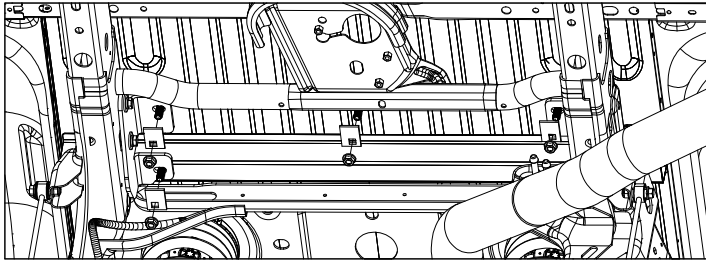
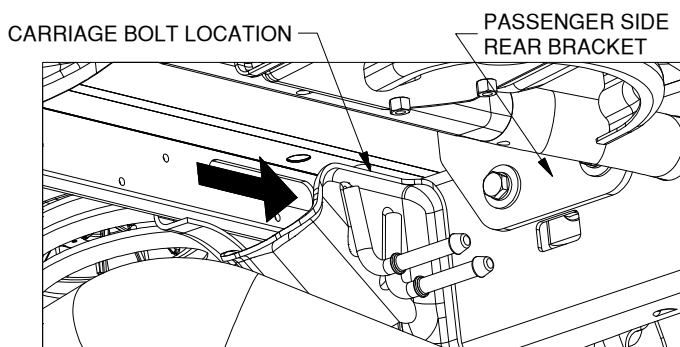

Figure C6: View looking up at the bottom of the truck bed.
Figure C7: View looking at passenger side frame and bed cross member. Arrow indicates access area
7. **Fasten the rear mounting rail.** Install an offset square hole washer and 1/2" flange nut on each of the carriage bolts passing down through the bed, as shown in Figure C6. Do not tighten at this time. The passenger side 1/2" x 4-1/2" carriage bolt can be accessed from a space in the frame geometry next to the bolt, see Figure C7. Use the space to thread the offset square hole washer and 1/2" flange nut. Use a box end wrench to tighten this nut.